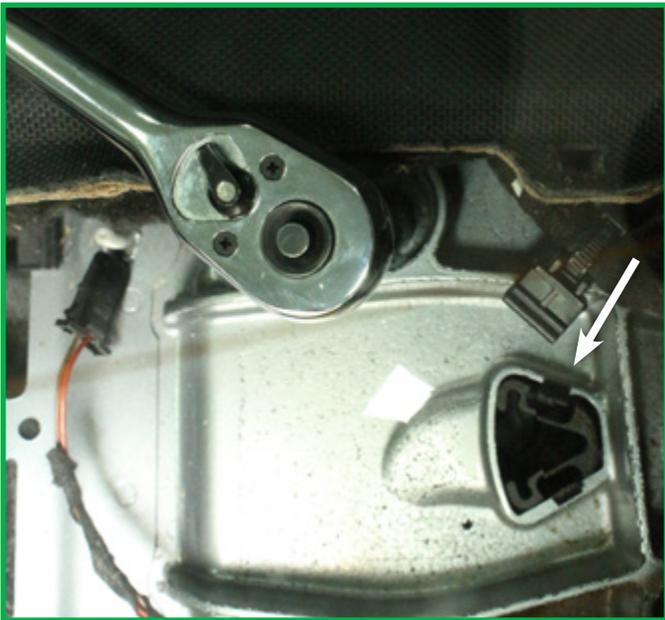

FIGURE 12
9. Remove the four (4) top mount nuts and unclip retaining clips. (Figure 12, 13)